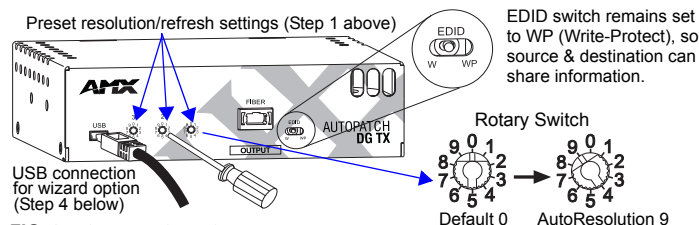

FIG. 4 Adjust one channel at a time
1. Set the rotary switch on the front of the TX module to position 9 “AutoResolution” (scans settings 3 through 7, see table below) using a small screwdriver (see FIG. 4 for rotary switch alignment).